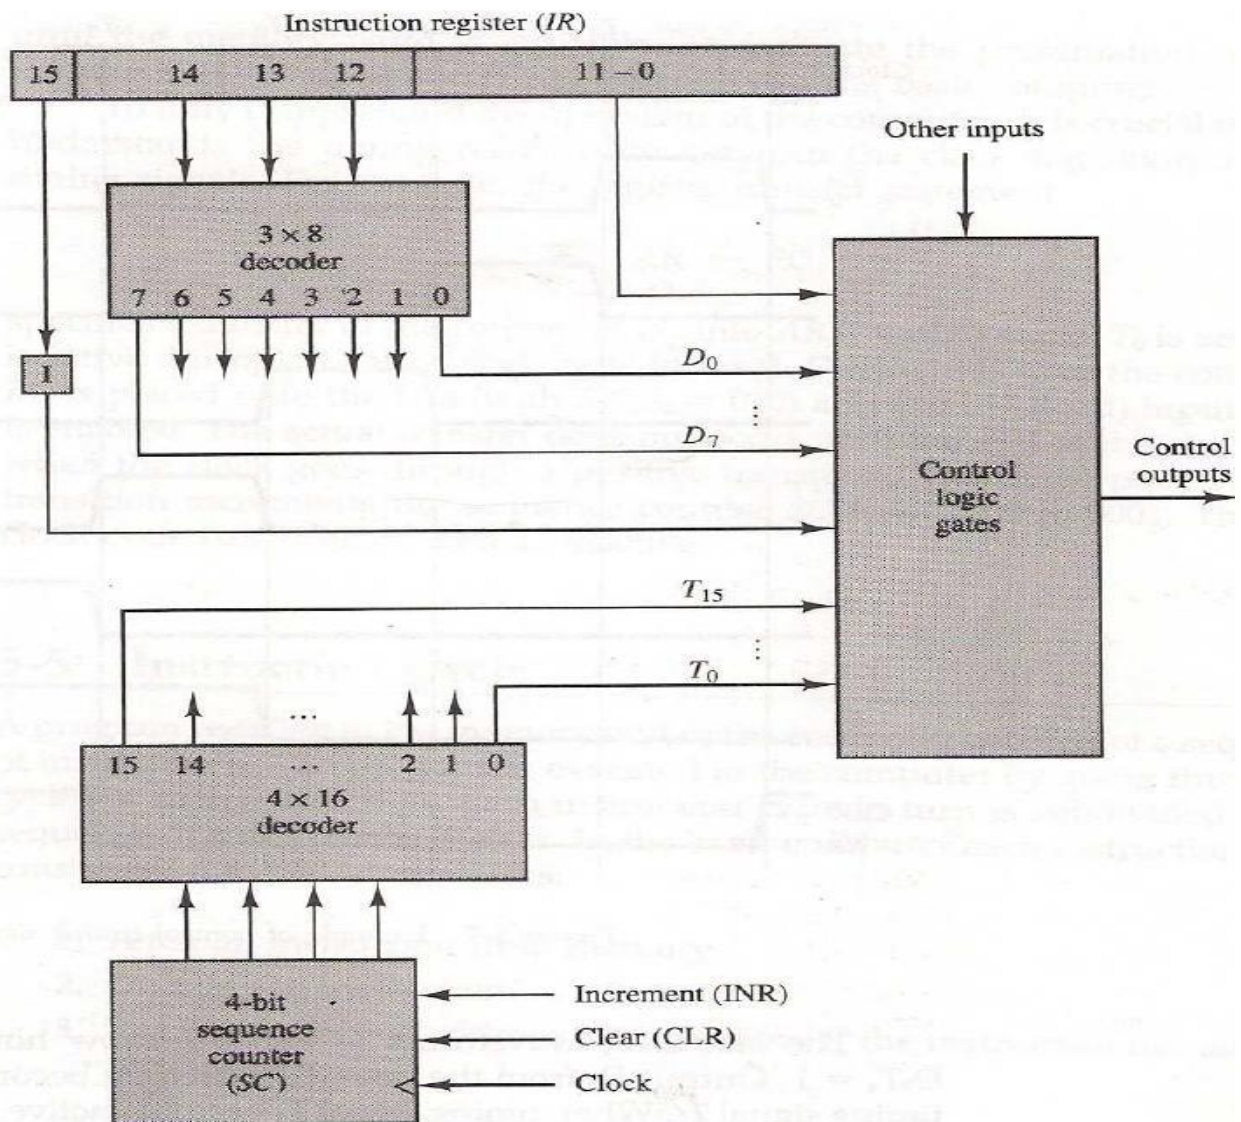

Figure 5-6 Control unit of basic computer.
- The block diagram of the hardwired control unit is shown in Fig. 5-6.
- An instruction read from memory is placed in the instruction register (IR). It is divided into three parts: The I bit, the operation code, and bits 0 through 11.